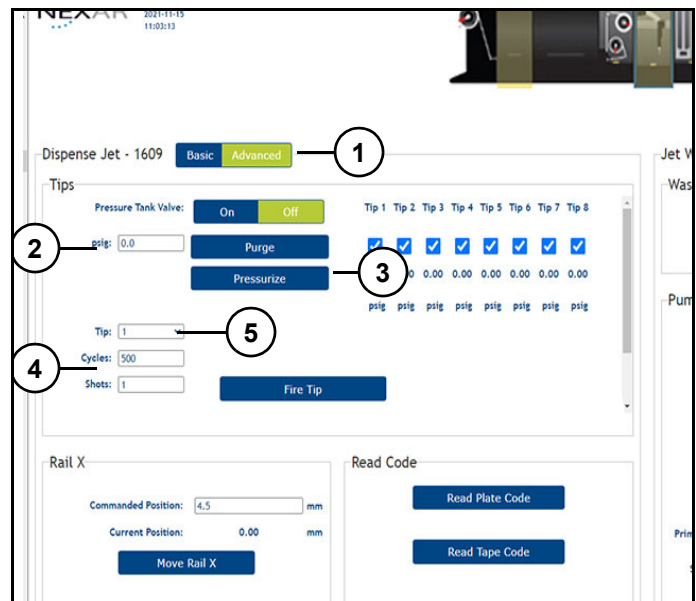

Figure 20
Refer to (Figure 20).
21. Click "Basic" (1).
22. Click "Dispense" (2).
23. Check location of air gap in tube of tip selected. If air gap is not at correct ending point (as it was in Step 8), change value in "Cycles" (4) (*Figure 20*).